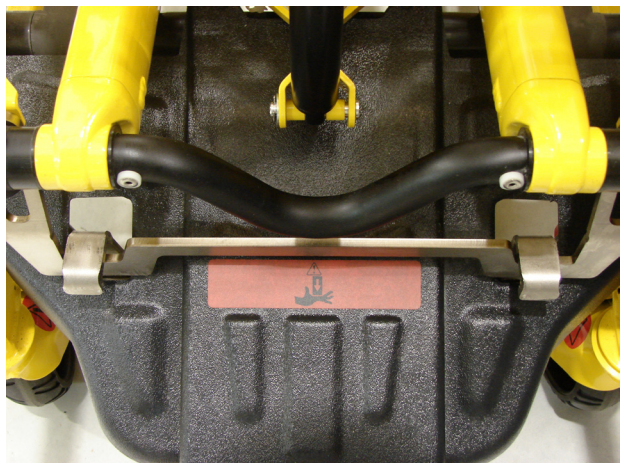

Figure 47b - Cot in Fastener (Head End)
3. Check to be sure the cot is securely fastened at both the head and foot end before releasing your grip on the cot (refer to Figure 47b).